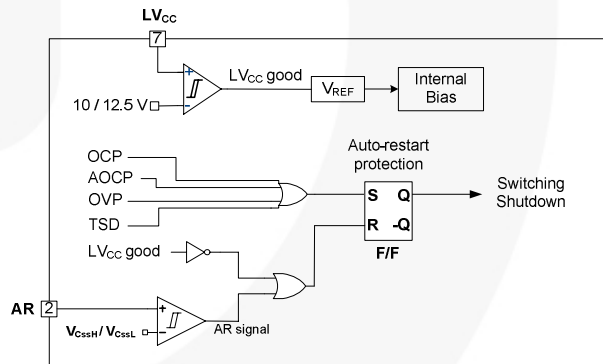

Figure 22. Protection Blocks
5. Protection Circuits: The FSFR-US series has several self-protective functions, such as Over-Current Protection (OCP), Abnormal Over-Current Protection (AOCP), Over-Voltage Protection (OVP), and Thermal Shutdown (TSD). These protections are auto-restart mode protections as shown in Figure 22.